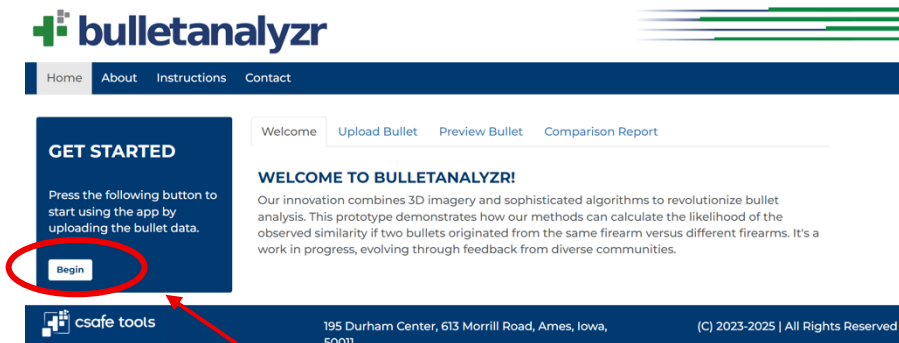

Figure 5. Click Begin on the BulletAnalyzr home page to get started.
- Click Begin on the BulletAnalyzr home screen. (Figure 5)